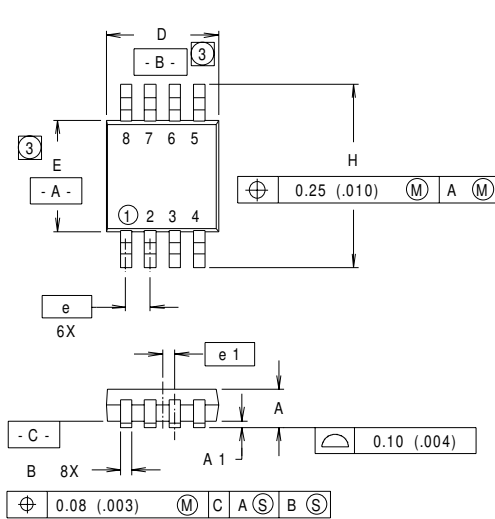

**Fig 21.** Maximum Effective Transient Thermal Impedance, Junction-to-Ambient
- ① Repetitive rating; pulse width limited by max. junction temperature. ( See fig. 21 )
- ② N-Channel ISD ≤ 1.7A, di/dt ≤ 120A/μs, VDD ≤ V(BR)DSS, TJ ≤ 150°C